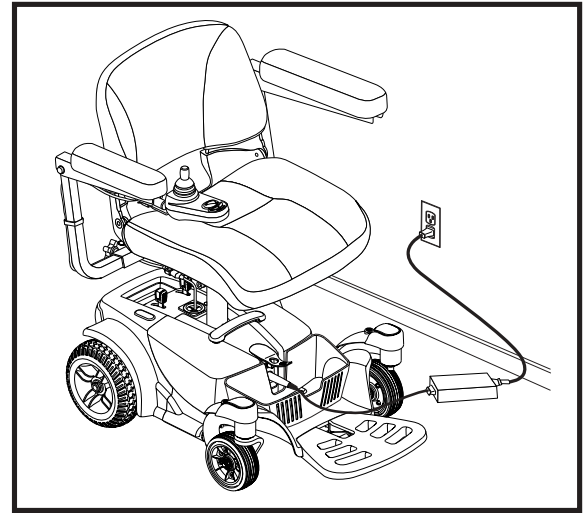

Figure 21. Battery Charging
1. Position the front of your travel chair next to a standard electrical outlet. See figure 21.